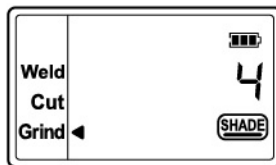

fig.15c
**Grind Mode** – No. 4 only (See fig.15c). Flip up the front-flip part for grinding job, the auto darkening filter also has grind mode setting.